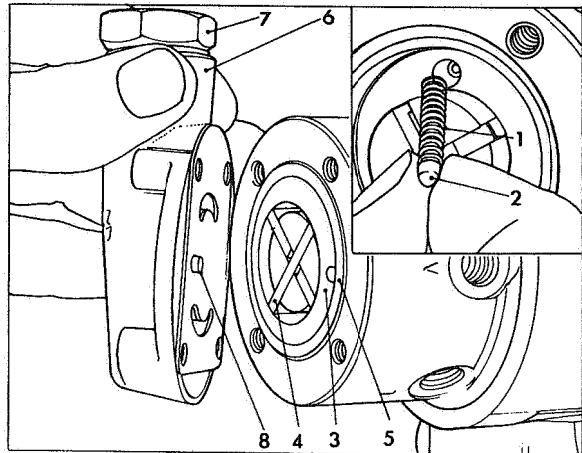

Fig 94 Fitting end plate assembly
Insert dumb-bell valve spring and pin (1 & 2) Fig 94 into hydraulic head as shown. Before assembling transfer pump liner (3) into pump housing ensure that the slot is in the same position it occupied prior to dismantling. See table: